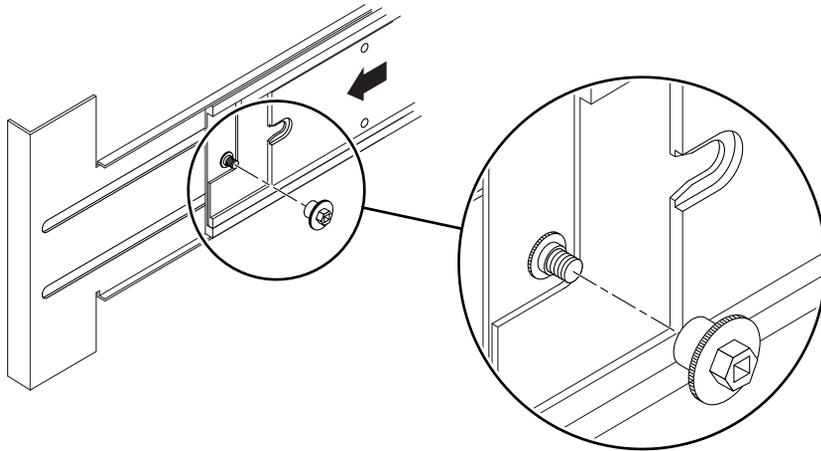

FIGURE 1-16 Inserting and Tightening the Lock Nut
6. From the rear of the server, insert and tighten the lock nuts, one for each rail (FIGURE 1-16).